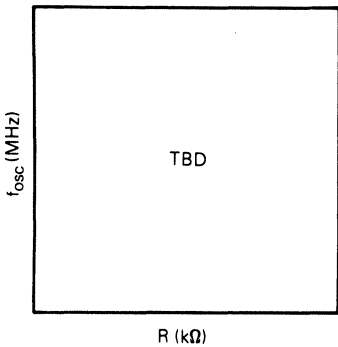

Fig. 8 - Frequency vs. resistance for RC oscillator option only.
**RC** — If the RC oscillator option is selected, then a resistor is connected to the oscillator pins as shown in Figure 7(b). The relationship between R and fOSC is shown in Figure 8.